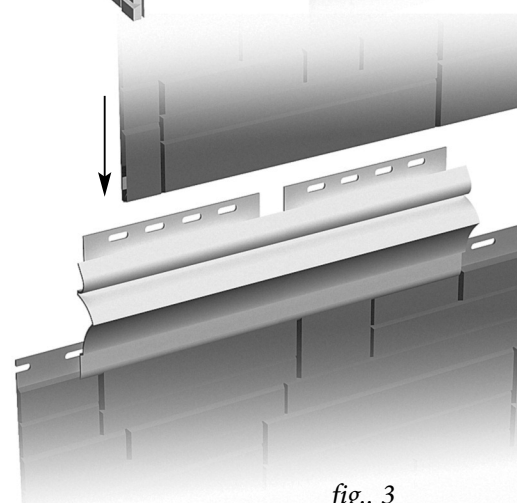

fig. 3
4) Weather strip can be used not only as a finishing element of window openings or doorways, but also as a decorative finishing element. In this case the weather strip acts as a decorative strip that you can use as a design element for decoration of your house (Fig. 3).